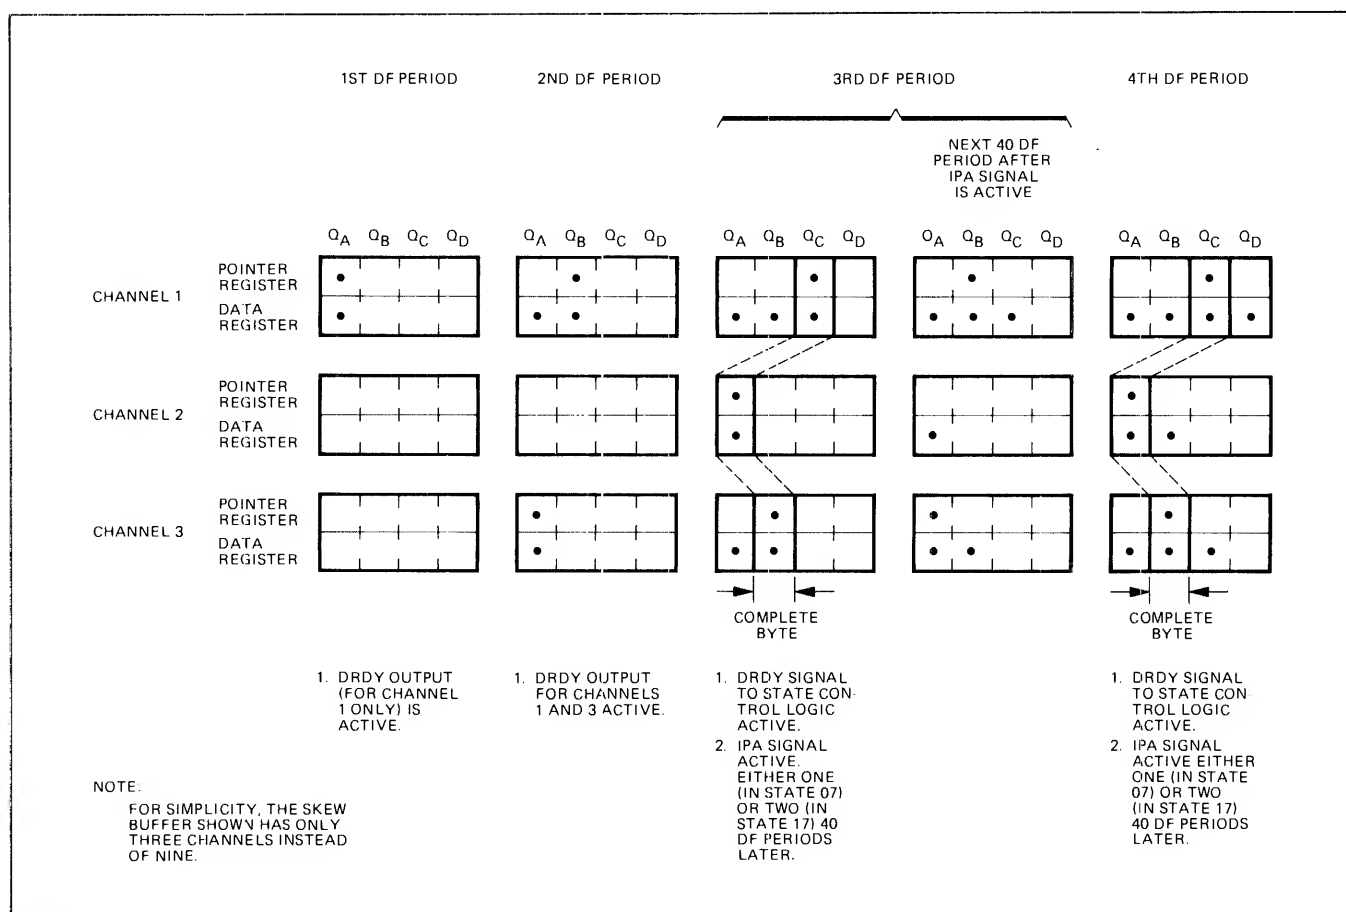

Figure 4-14. Skew Buffer Operation
The skew buffers compensate for skew. The buffer consists of a data register, a pointer register, and a comparator. The data and pointer registers have four bit positions. When the skew buffer is enabled by the Enable signal, the next level change to arrive in the level change register is stored in the first (QA) position of the data register by the active Shift pulse from the window logic. If skew exists, some of the data bits for a given byte will arrive at the skew buffers in their channels before the last bit (which completes the byte) arrives at the skew buffer in its channel. The skew buffer in each channel keeps track of the earliest-arrived data bit which has not yet been matched, in all other eight channels to form a complete byte. It can keep track of an unmatched data bit for up to four byte times before an error signal is produced. (Figure 4-14).